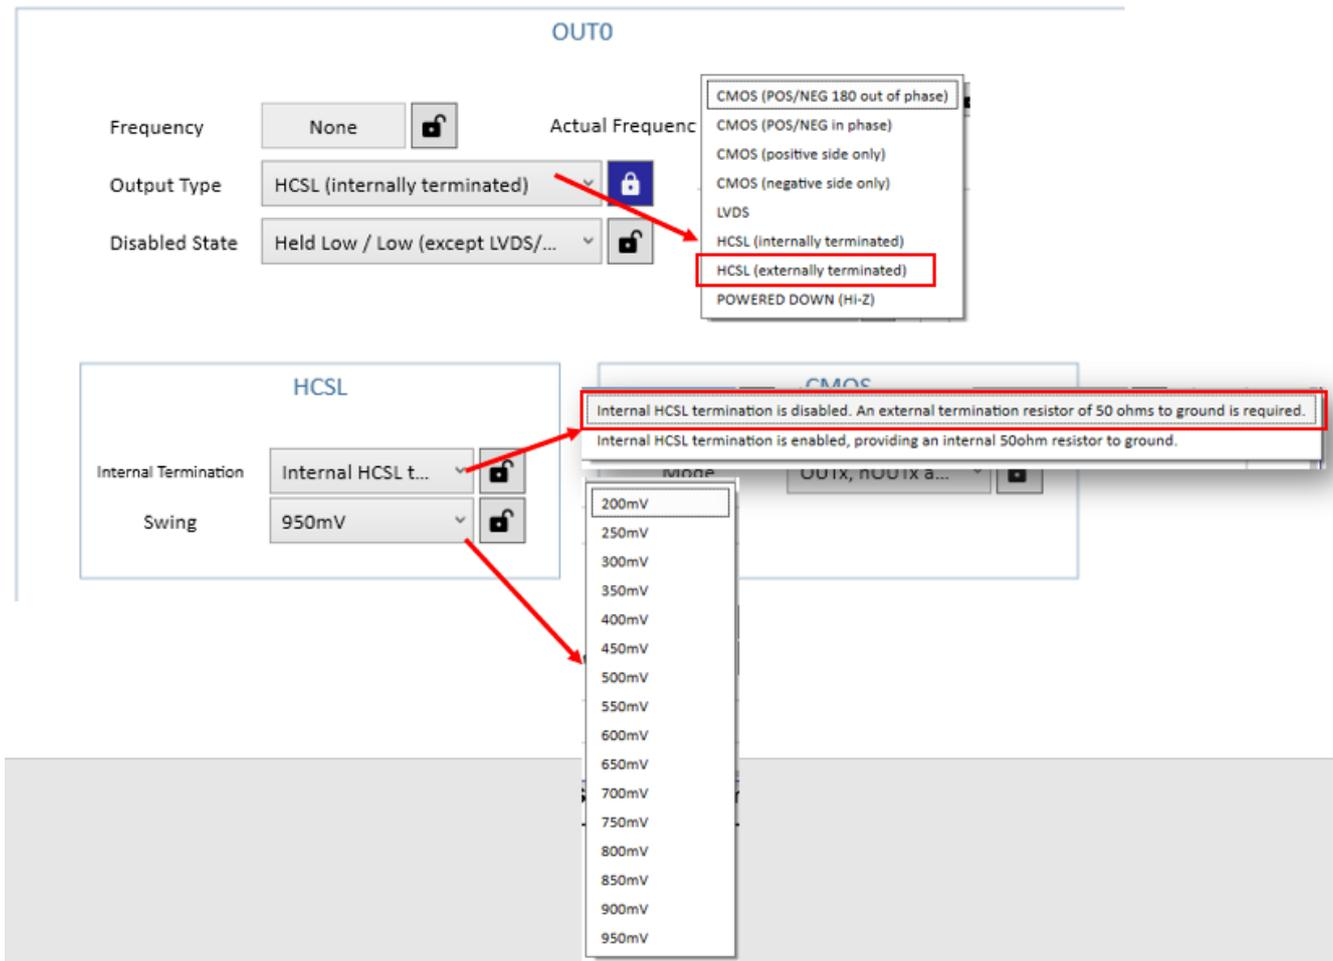

Figure 9. HCSL External Termination Setting in RICBox
4. When the **Output Type** selected is *HCSL (externally terminated)*, the GUI automatically sets the **Internal Termination** to disabled (see Figure 9).